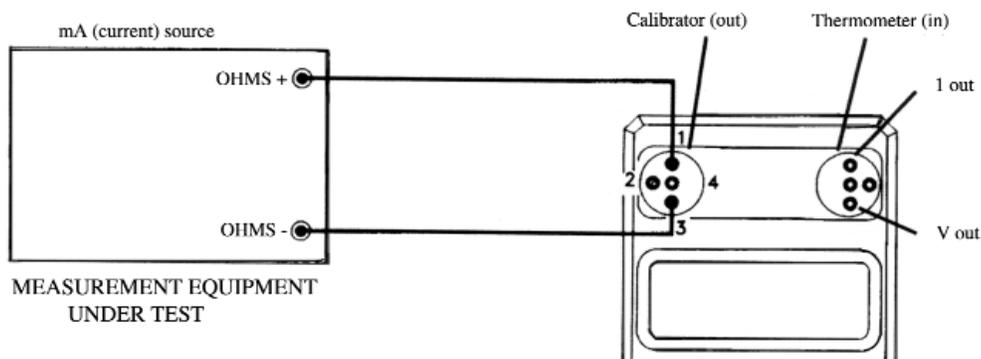

Figure 8. 2-Wire Resistance Simulation
1. Connect measurement equipment under test (eg. RTD thermometer, ohmmeter, etc.) to the instrument as shown in Figures 8, 9, or 10. The same performance tradeoffs apply to 2, 3 and 4-wire simulations as to 2, 3, and 4-wire measurements. Refer to RTD, Thermistor and Ohms Meter-Mode section above for wiring guidelines.